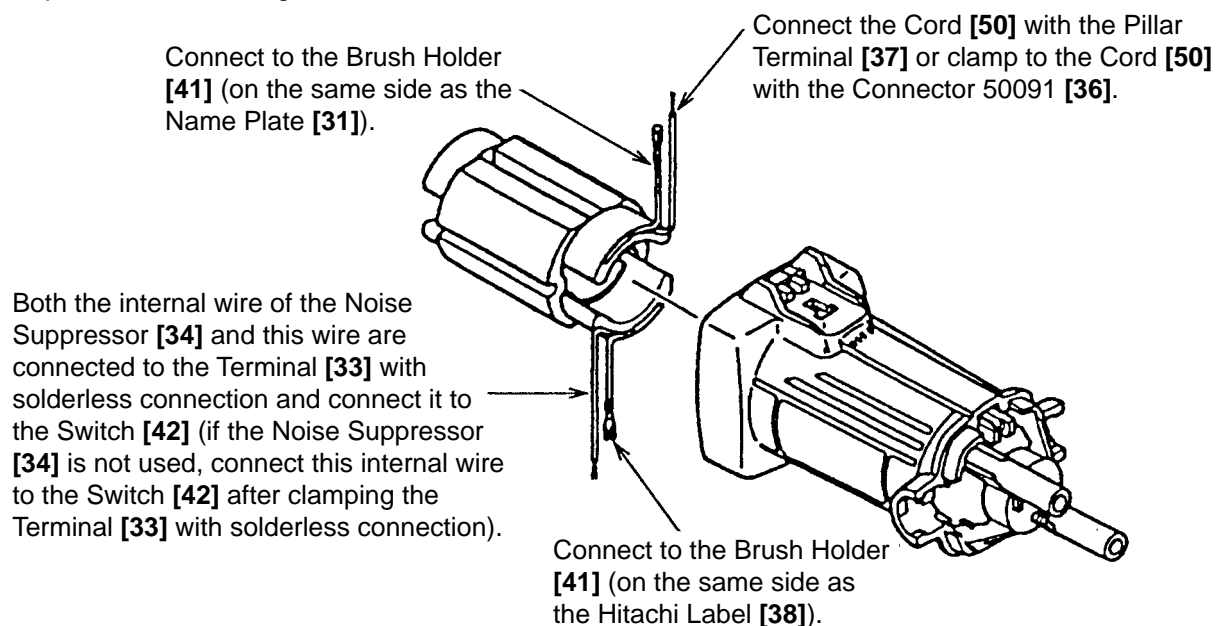

Fig. 4
- (5) When installing the Stator [15] into the Housing Ass'y [30], insert it while taking care of the placement of the internal wires of the stator [15] as indicated in Fig. 4. Connect the four internal wires of the Stator [15] with the parts indicated in Fig. 4.